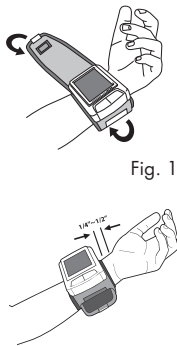

Fig. 2
5. Adjust the cuff 1/4" - 1/2" from the edge of the head of the ulna bone, Fig. 2.